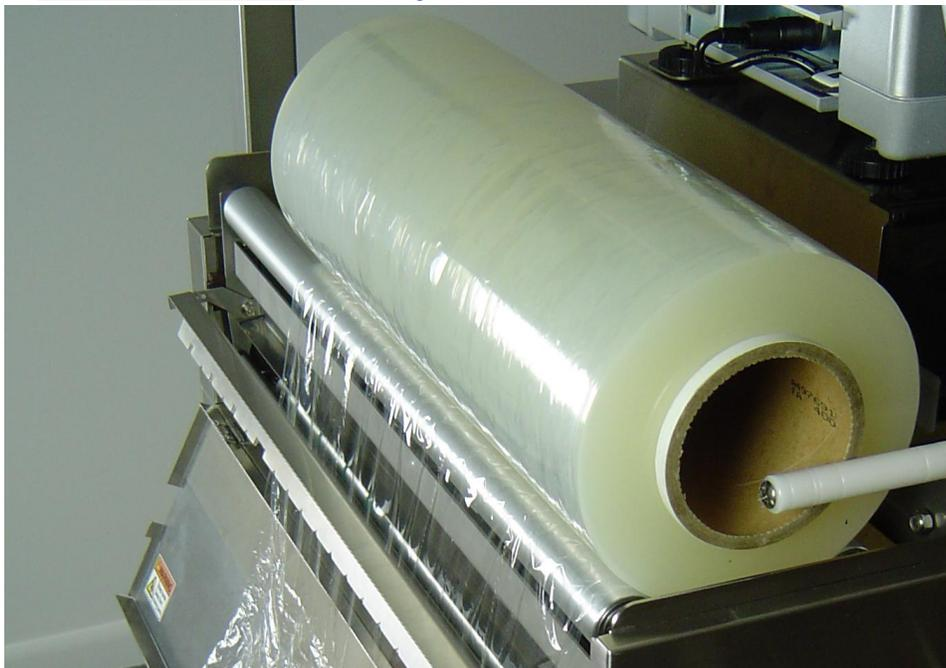

Figure 6.1.1. Film Roll Setting on Rollers and Coming off the Bottom
- a. Place the film roll on the two rollers at the upper left side. The film must come from the bottom of the roll. See Figure 6.1.1.